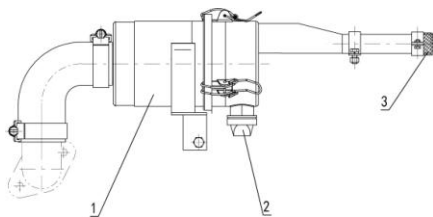

Figure 6-14 Air filter
The air filter adopts k1317 dry paper filter element and its structure and air flow diagram are shown in Figure 6-14. The air is absorbed from the air inlet (3) in the front of the air filter and the twisting angle causes the air to rotate. Larger particles are thrown to the bottom dust outlet (2) due to centrifugal force and pass through the filter element before being sucked into the cylinder. The clean air makes it possible to extend the service life of the cylinder sleeve and piston.